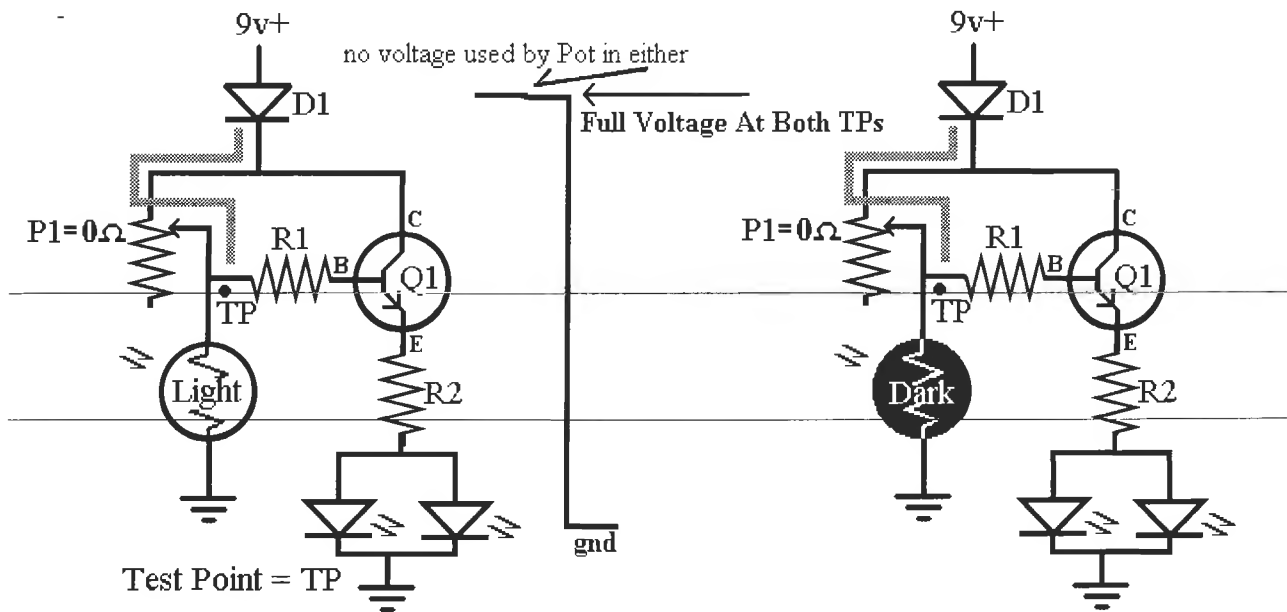

Figure L11-6
increased *proportionately*. The same thing happens with two resistor loads in this circuit. More detail is given in Figure L11-6.
5. Set the pot so the resistance between legs "A" and "C" center now has 0 ohm. Figure L11-6 shows how the voltage available to the transistor base is identical in both the light and the dark. The potentiometer uses none of the voltage, so the base of the transistor is exposed to nearly full voltage in both circumstances.
6. Now set your circuit under a fairly good light. Measure and record the voltage at the test point shown in Figure L11-6. \_\_\_\_\_ V